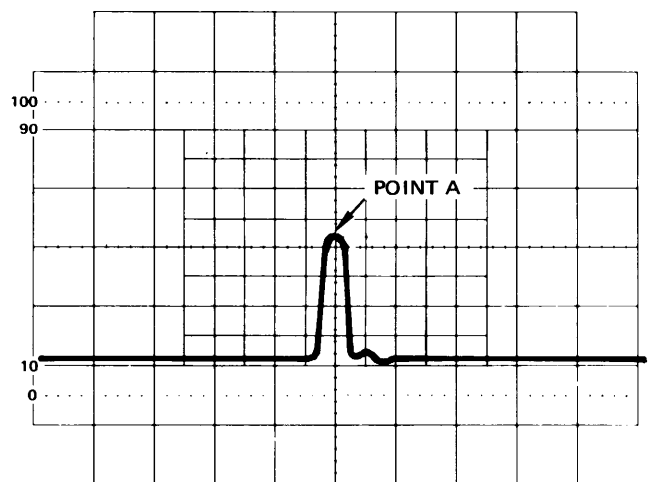

Fig. 5-F-4.  $0.2 \mu\text{s}/\text{Div}$  Timing.
- g. Set HORIZ DISPLAY switch to B DLY'D (A TIME/DIV,  $2 \mu\text{s}$ ; B TIME/DIV,  $0.2 \mu\text{s}$ ) and horizontally position the displayed time mark to cross center vertical graticule line. See Point A, Fig. 5-F-4.